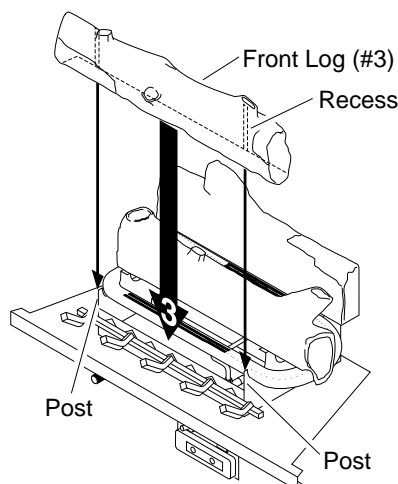

Figure 42 - Installing Front Log (#3)
3. Locate the recesses on the back of the front log (#3). Fit these recesses between the posts of the grate base (see Figure 42).